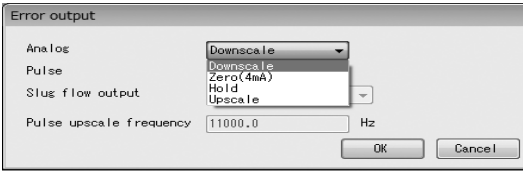
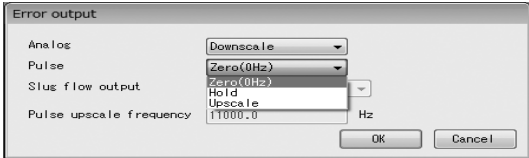

Fig.53
Fig.54
- ③ Select the output levels to set from the drop-down lists by clicking the triangles on the right side of the "Analog" and "Pulse" items, as shown in Fig. 53 and Fig. 54.